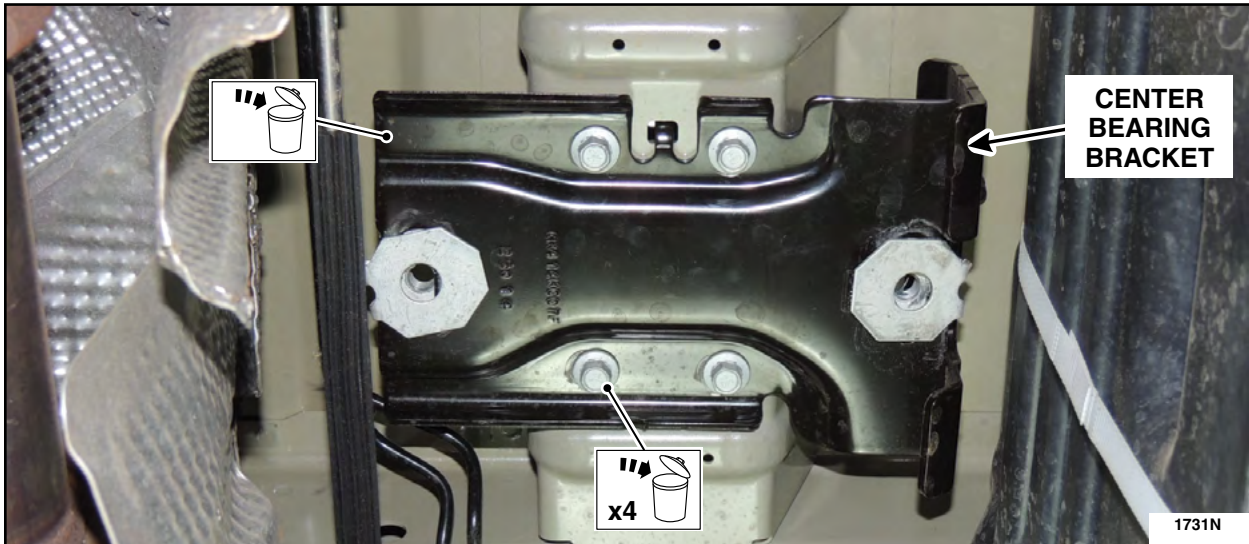

FIGURE 6
4. Remove and discard the four center bearing bracket retaining bolts and the center bearing bracket. See Figure 6.